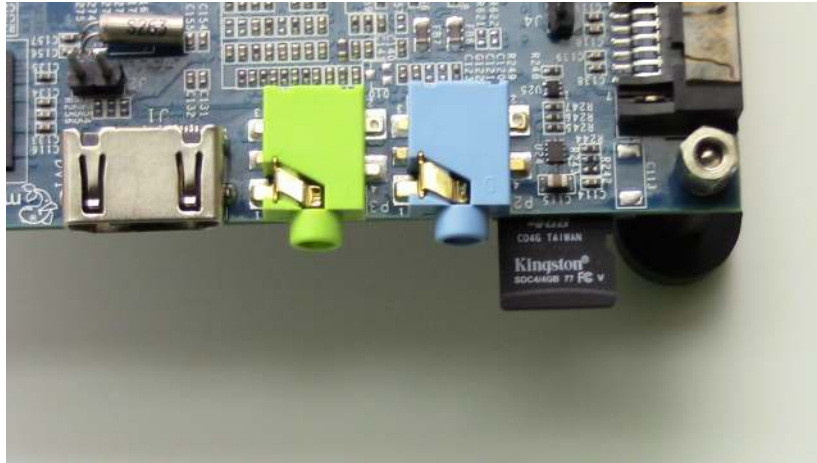

Figure-4: Connecting the micro SD card
- First insert the card into the microSD card slot label side up as shown in Figure -4. Push the microSD card into the slot until it clicks into place.